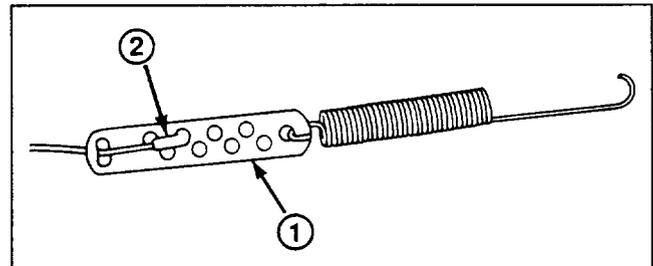

Figure 10
3. **ADJUST CABLE (Fig. 10)**— Unhook spring end from the bottom hole in control bar bracket. Slide